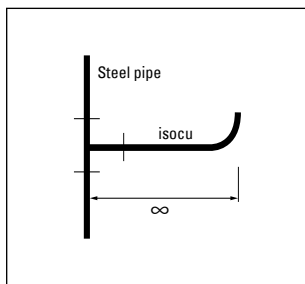

fig. 1
- If tee branches are used, the isocu pipe can be connected without any need for relief measures, $L = \infty$. See fig. 1.